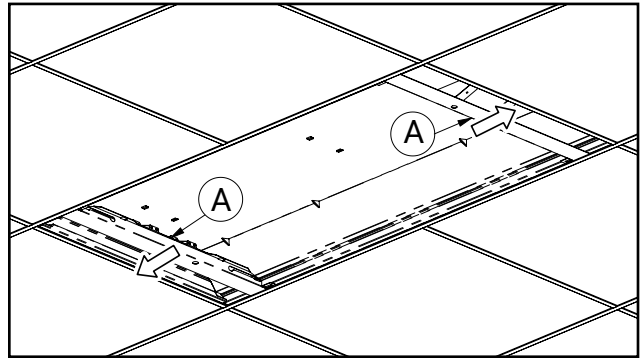

Figure 6.
6. Slide Anchor Rails (A) outward as far as possible (Fig. 6).